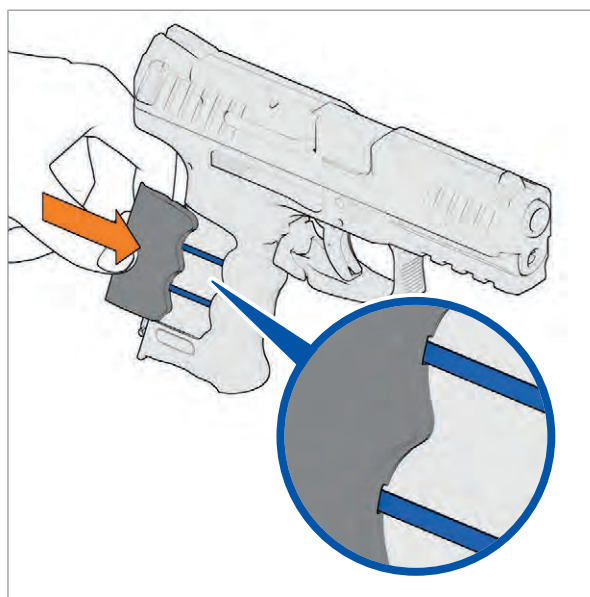

Fig. 20: Slide grip shells into guides
1. Slide grip shells into the plastic guides of the frame from rear to front (*Fig. 20*).